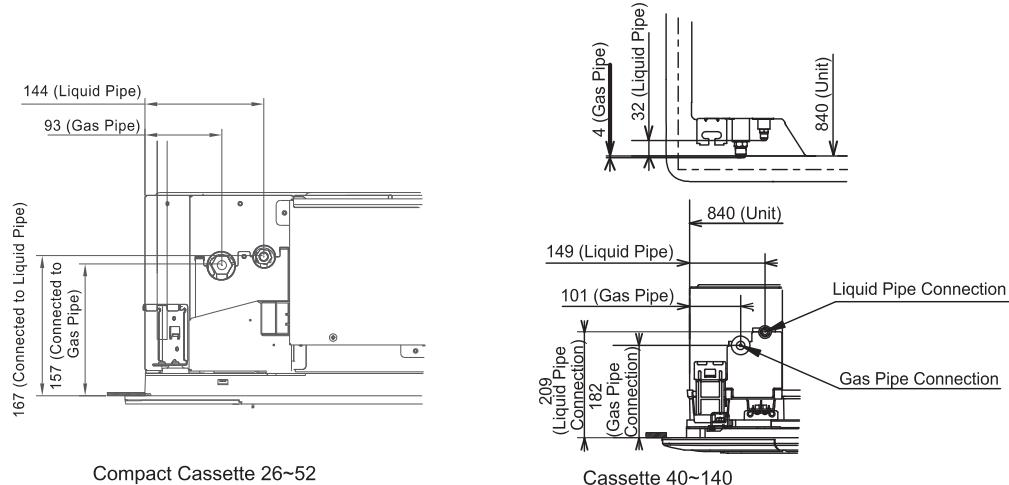

Fig. 4.1 Position of Piping Connection (Unit:mm)
(1) Position of piping connection is shown in Fig. 4.1.(Indoor Unit)